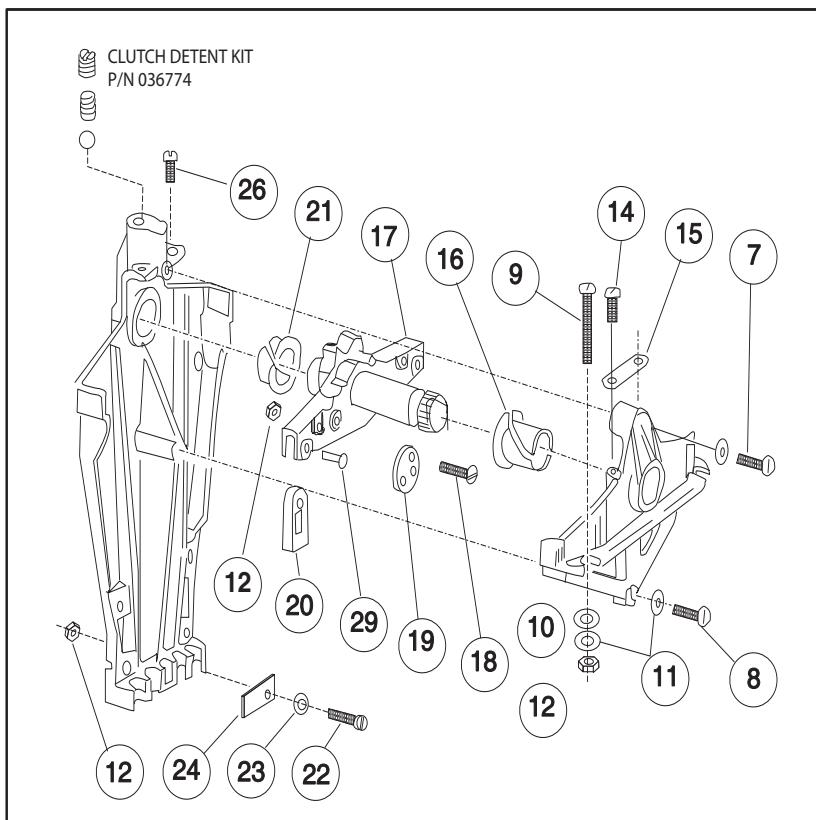

FIGURE 7- ONE HALF THE TWIN SR SHOWN
1. Typical dual station applications are shown in Figure 7.
Not Shown in Figure 7.
- The following, packed with the Control and shown on Figure 7, page 6, are to be discarded: